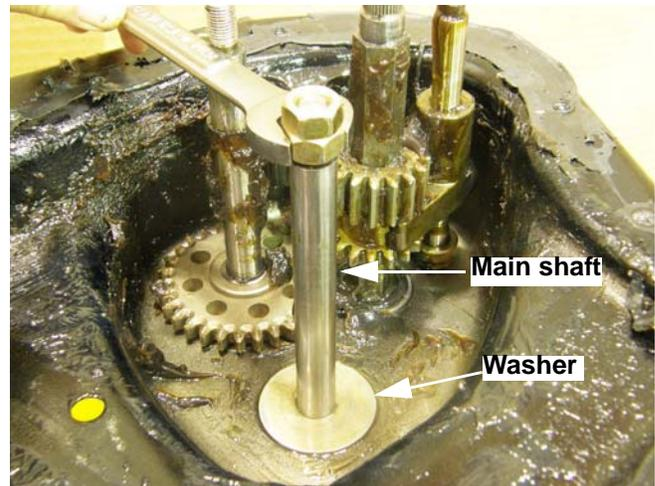

Figure 5.44
9. If the main shaft needs to be removed, double-nut the shaft so that it can be held with a wrench, then remove the nut and Belleville washer from the bottom of the main shaft using an 11/16" wrench. See Figure 5.44.